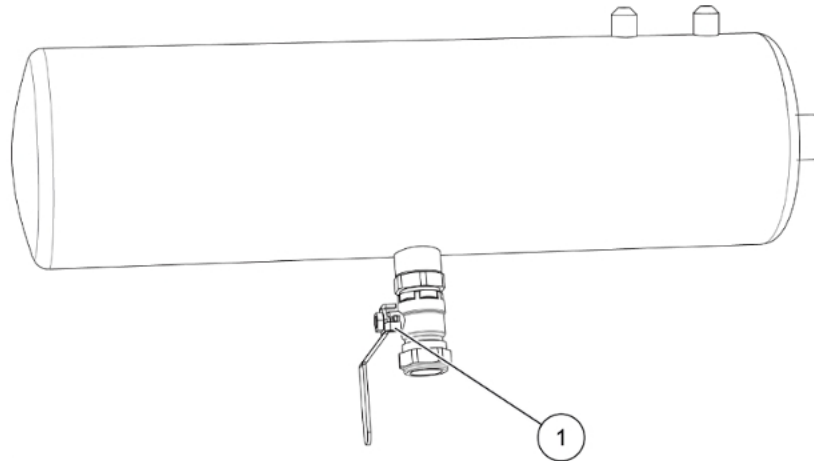

Figure 5-39 Air storage tank
Step 3: Open the drain valve (1) at the bottom of the air tank for drainage, as shown in Figure 5-39;